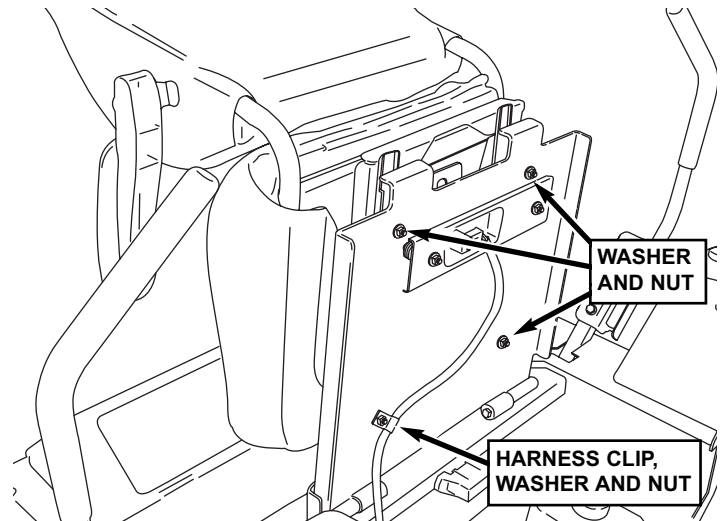

FIGURE 2
- B. Install seat to seat plate, and secure each stud with one 5/16 flat washer and nyloc nut. See Figure 2. Tighten securely.
NOTE: Secure the harness clip to the left forward stud before installing the washer and nut. Slip the harness for the seat safety switch into this clip. See Figure 2.